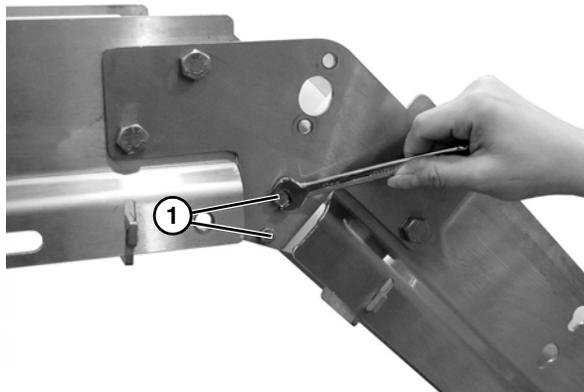
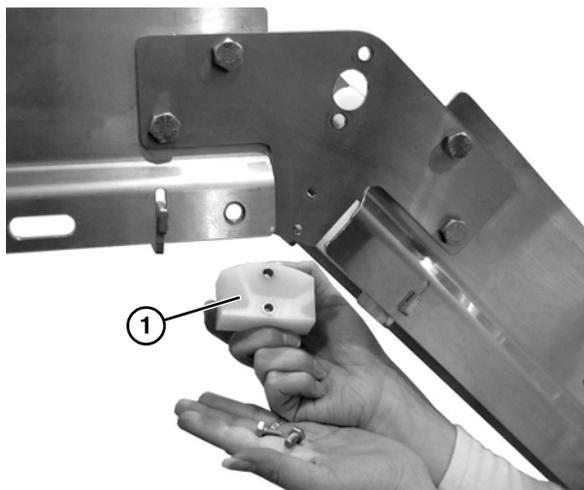

Figure 65
Figure 66
- Remove two cap screws (**Figure 65, item 1**) and inner belt return guide (**Figure 66, item 1**). Repeat on opposite side of the conveyor.